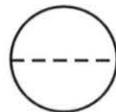

Figure 39. Instrument Tag
10. Determine the type of device indicated by the tag in figure 39.